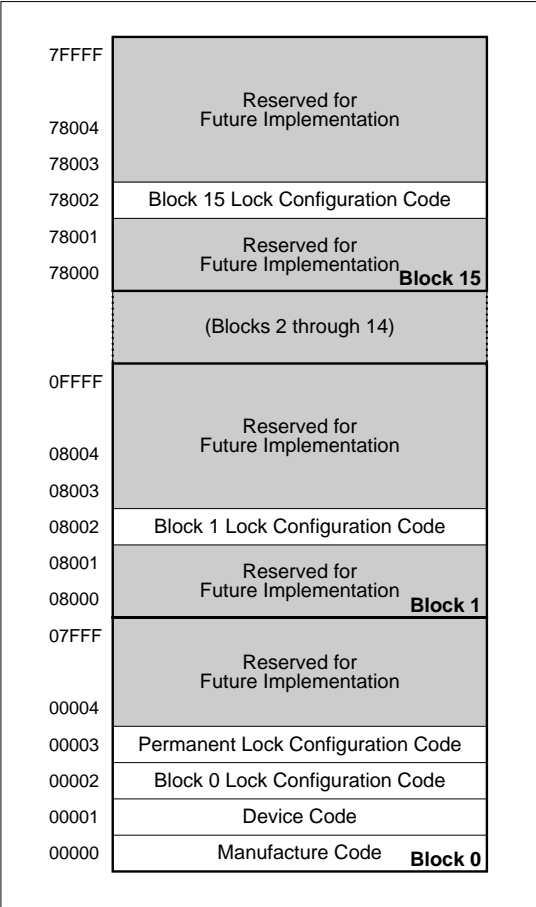

Fig. 2 Device Identifier Code Memory Map
The read identifier codes operation outputs the manufacture code, device code, block lock configuration codes for each block, and the permanent lock configuration code (see Fig. 2). Using the manufacture and device codes, the system CPU can automatically match the device with its proper algorithms. The block lock and permanent lock configuration codes identify locked and unlocked blocks and permanent lock-bit setting.
IA = Identifier code address : see **Fig. 2**.
The identifier code operation is initiated by writing the Read Identifier Codes command. Following the command write, read cycles from addresses shown in **Fig. 2** retrieve the manufacture, device, block lock configuration and permanent lock configuration codes (see **Table 4** for identifier code values). To terminate the operation, write another valid command. Like the Read Array command, the Read Identifier Codes command functions independently of the VPP voltage and RP# can be V_{IH} or V_{HH}. Following the Read Identifier Codes command, the following information can be read :
1. X selects the specific block lock configuration code to be read. See **Fig. 2** for the device identifier code memory map.